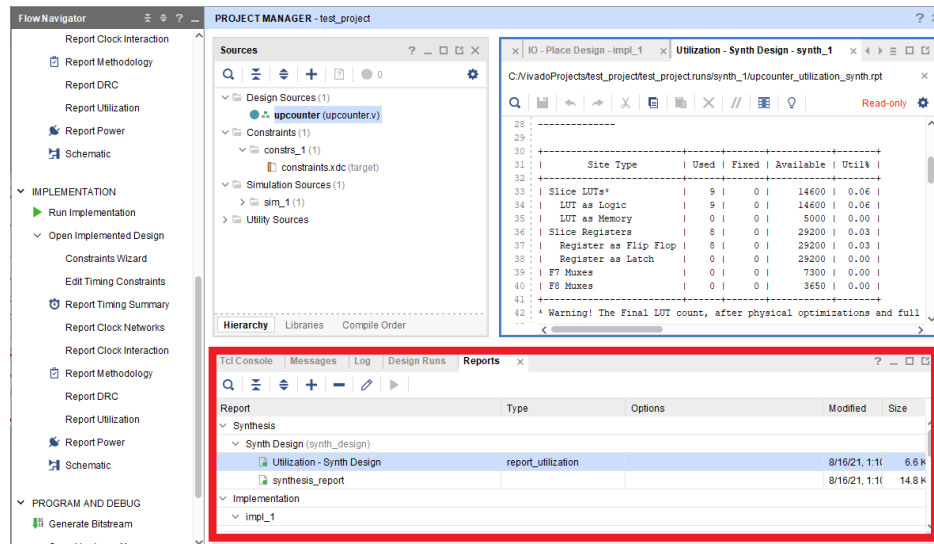

Figure 2: View synthesis (and other procedures) output reports in the bottom window of Vivado.
3. Synthesize the design by double-clicking "Run Synthesis" from the left panel. Once synthesis is completed, a prompt will appear which will allow you to view the synthesized design and reports. At the bottom of the screen, you can see tabs for several items such as Messages, Log, and Reports – as shown in Figure 2. Down there you can double click on each report and it will be opened in the above editor. The messages and log tabs can provide useful information such as errors and warnings.